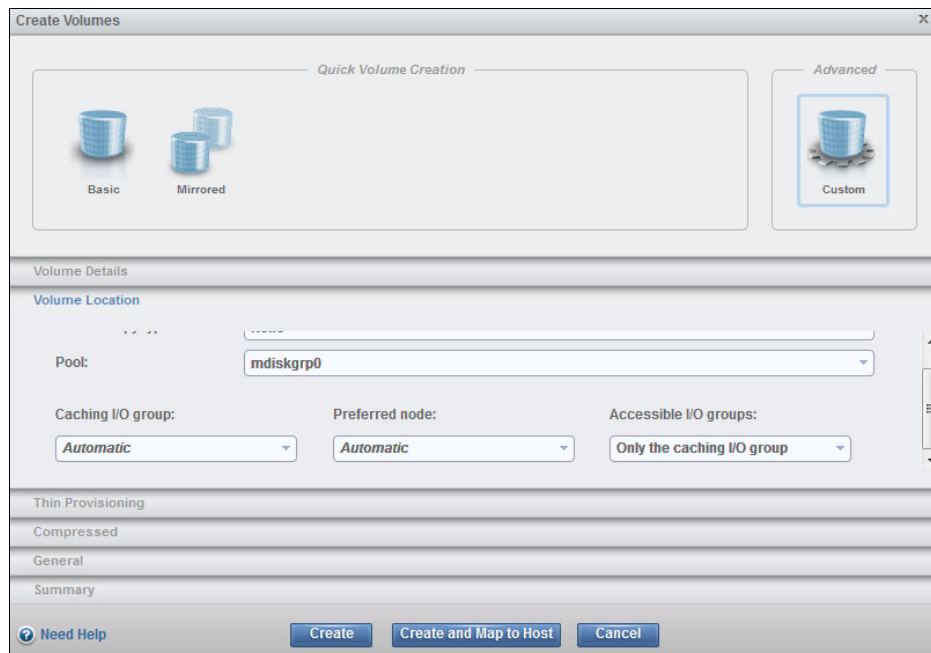

Figure 5-60 Default volume location settings
- Volumes are presented to the host by one I/O group. A cluster with two or more I/O groups will, by default, automatically balance the volumes over all I/O groups. The AIX host can access both I/O groups in this example setup. Therefore, the volumes for the AIX host can be auto-balanced over the two I/O groups. This is the default setup, as shown in Figure 5-60. Click **Create** to create the four volumes.